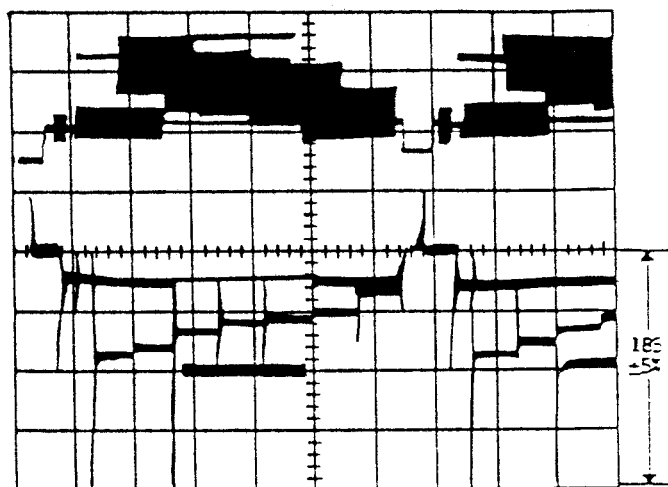

Fig. 15
- (1) Connect CH-1 on the oscilloscope to TP4201 and connect CH-2 on the oscilloscope to TP4005.
- (2) Adjust VR4005 so that waveform become as shown in Fig. 15.